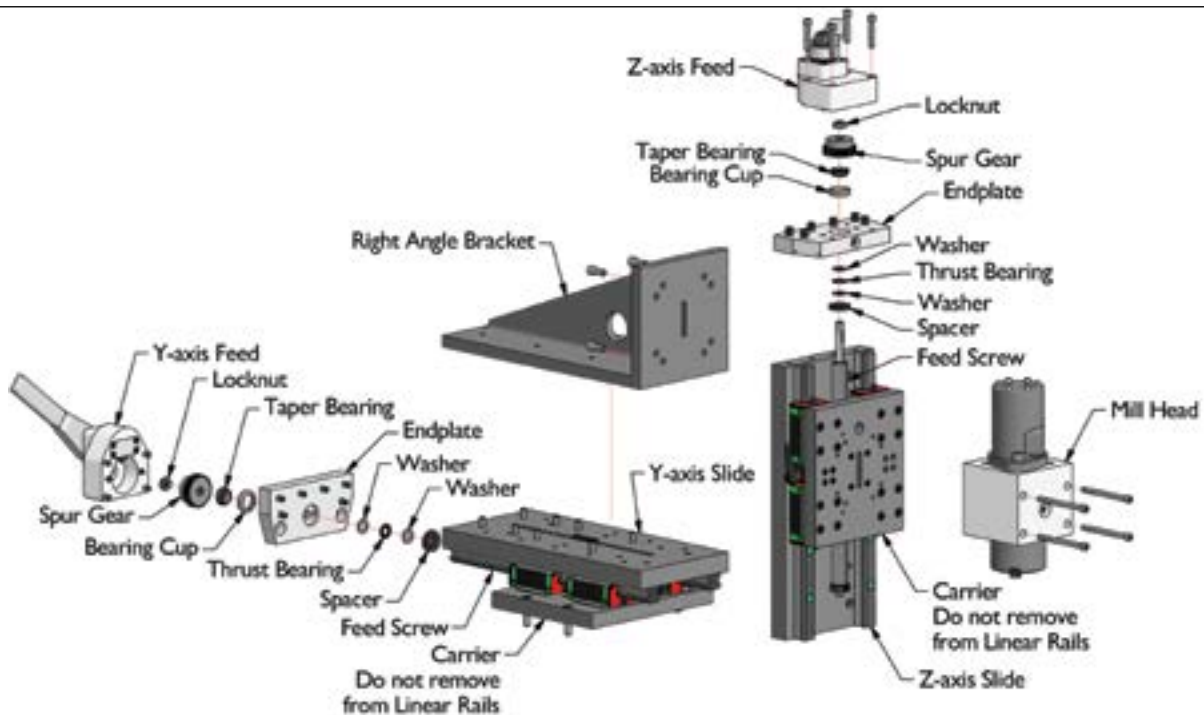

Figure 13 - Y-Z axis Slide Assembly Maintenance
- I. Inspect the Y-Z axis slide assembly for damaged or excessively worn components. See Figure 13 for Y-Z axis slide assembly details. Clean metal chips from the slides and rails with compressed air. Inspect the feed screws for wear or damage. Replace worn or damaged components as necessary. Apply anti-seize lubricant to screw threads.